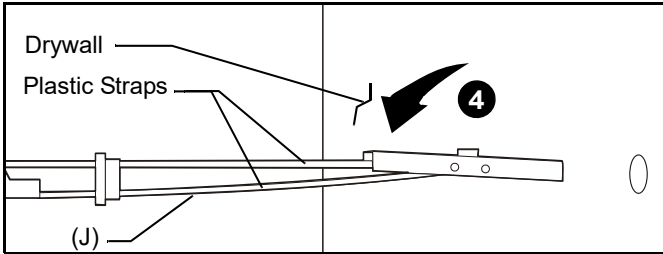

Figure 14
4. Hold metal channel on anchor (J) flat alongside plastic straps and slide channel through hole. (See Figure 14)